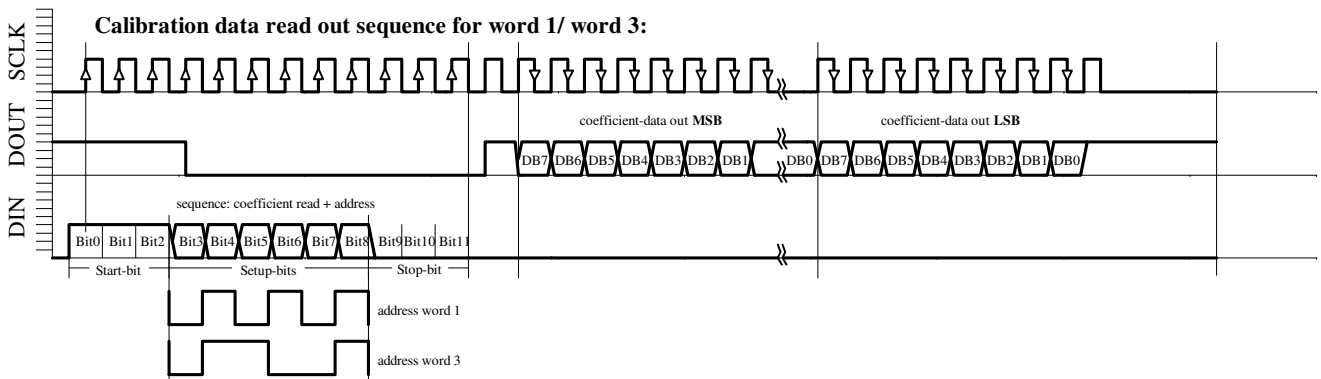

Fig. 6c: W1, W3 READING sequence
- Calibration data READOUT sequence for Word1 (Figure 6c)
- Calibration data READOUT sequence for Word3 (Figure 6c)